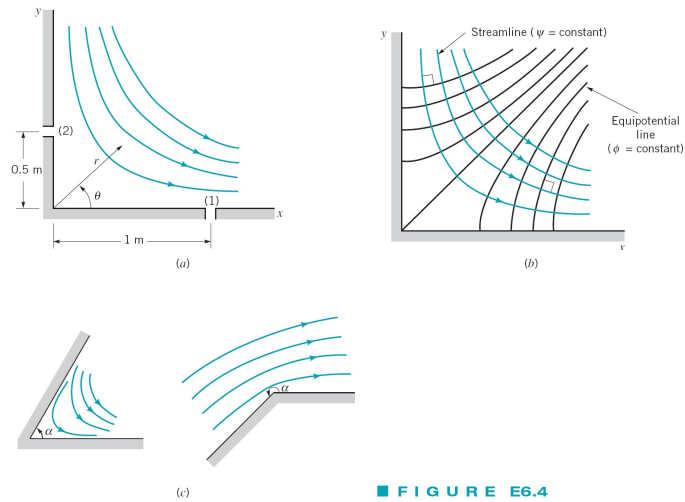

FIGURE E6.4
- The two-dimensional flow of a nonviscous, incompressible fluid in the vicinity of the 90° corner of Figure E6.4(a) is described by the stream function